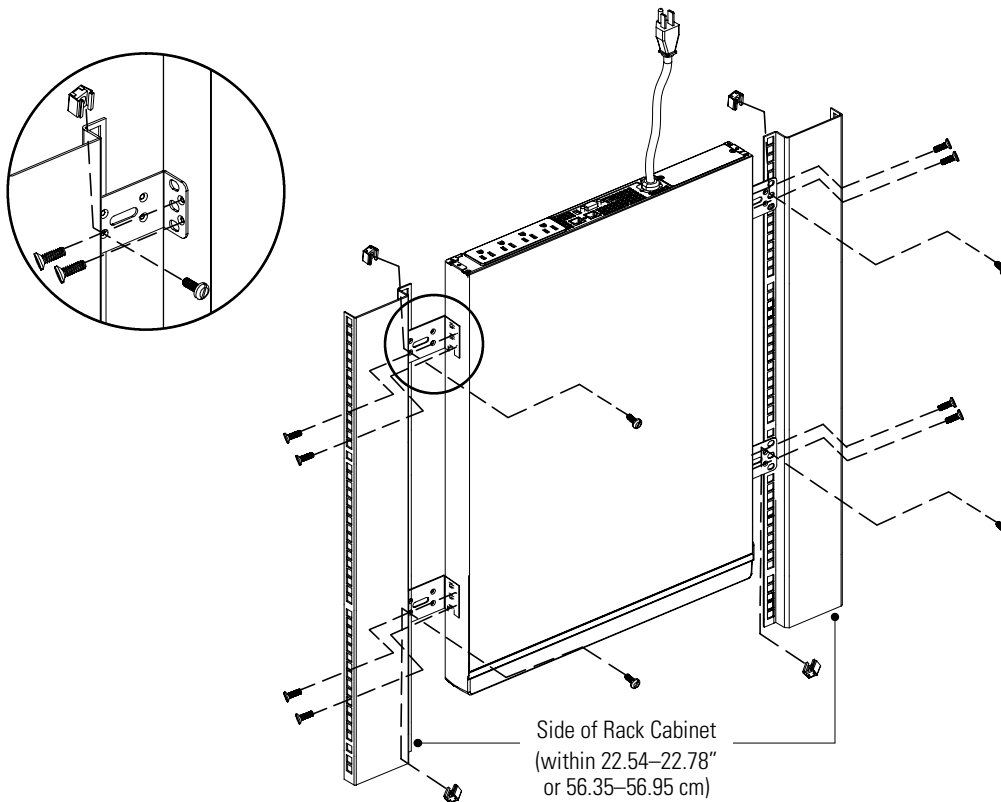

Figure 9. Zero-U Mounting
2. Attach four mounting brackets to the UPS as shown Figure 9.